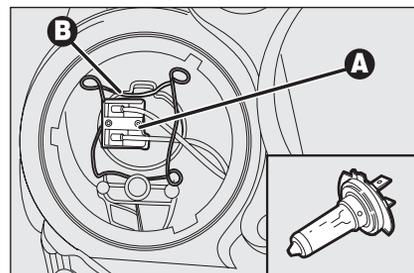

fig. 26
- fit the new bulb and refit bulb holder catch **B-fig. 26**;